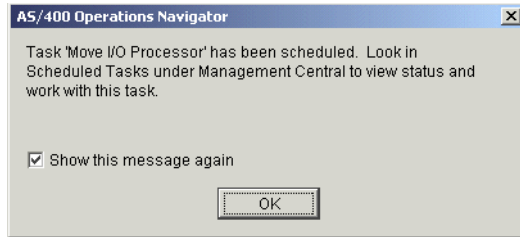

Figure 8-51 AS/400 Operations Navigator confirmation: Primary to As05b
14. A message is then sent to confirm that the move has been scheduled in Management Central. See Figure 8-51.